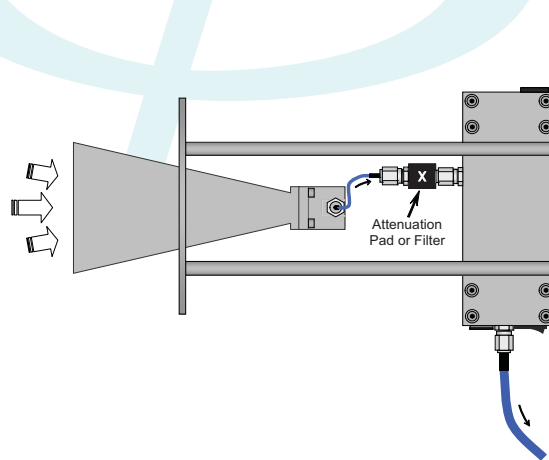

FIGURE 8 - AHA-840 - ACTIVE-Rx (non-std) Configuration
- 3) Disconnect the coaxial jumper cable from the preamplifier input connector of the antenna. Attach an appropriately rated coaxial attenuator (at least 10 dB) to the preamplifier input port, and connect the coaxial jumper cable to the attenuator input (see Figure 8). Reposition (if necessary) the antenna to the height noted in Step 1.
Illustrated in Figure 8 is the AHA-840 Active Double Ridge Horn Antenna in its ACTIVE-Rx (non-std) configuration. As shown, the coaxial jumper cable connects directly to the antenna port, and the other end of the jumper cable is connected to an addition device, such as an attenuation pad or an RF filter (band-pass or notch), which is connected to the preamplifier input port. For discussion purposes, we will call this device the 'X-device'.